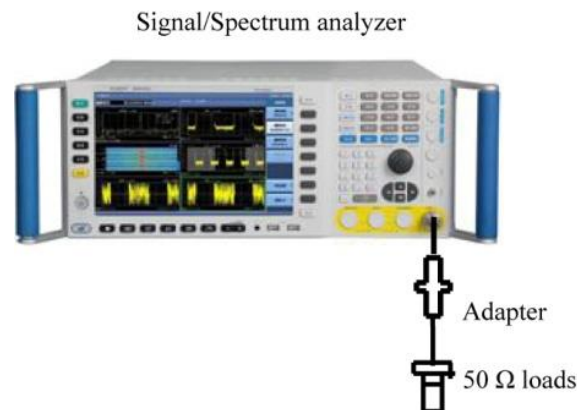

Fig. 8.14 Schematic diagram of display average noise level test
- 1) Connect the 50 Ω load and the adapter to the input interface of the 4051 analyzer as shown in Fig. 8.14.
1) Connect the instrument as shown in Fig. 8.14. Reset the 4051 analyzer and connect 50 matcher at the signal input 50 interface.